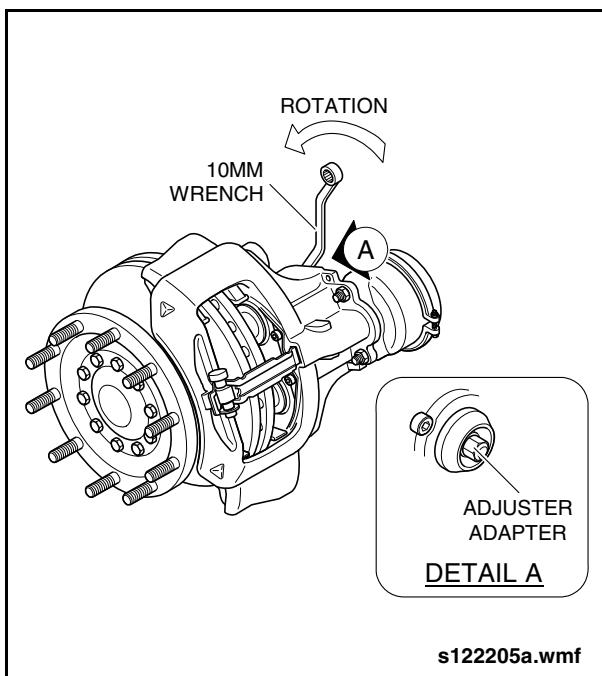

Fig. 1-46: Checking Adjuster Movement
- b. As a visual aid, position a wrench or socket onto the adjuster (including Adapter). Apply the brake 5 to 10 times (approximately 30 psi (2 bar)), the wrench or socket should turn clockwise (viewed from actuator side) in small increments if the adapter is functioning correctly. See “Fig. 1-46: Checking Adjuster Movement” on page 52.